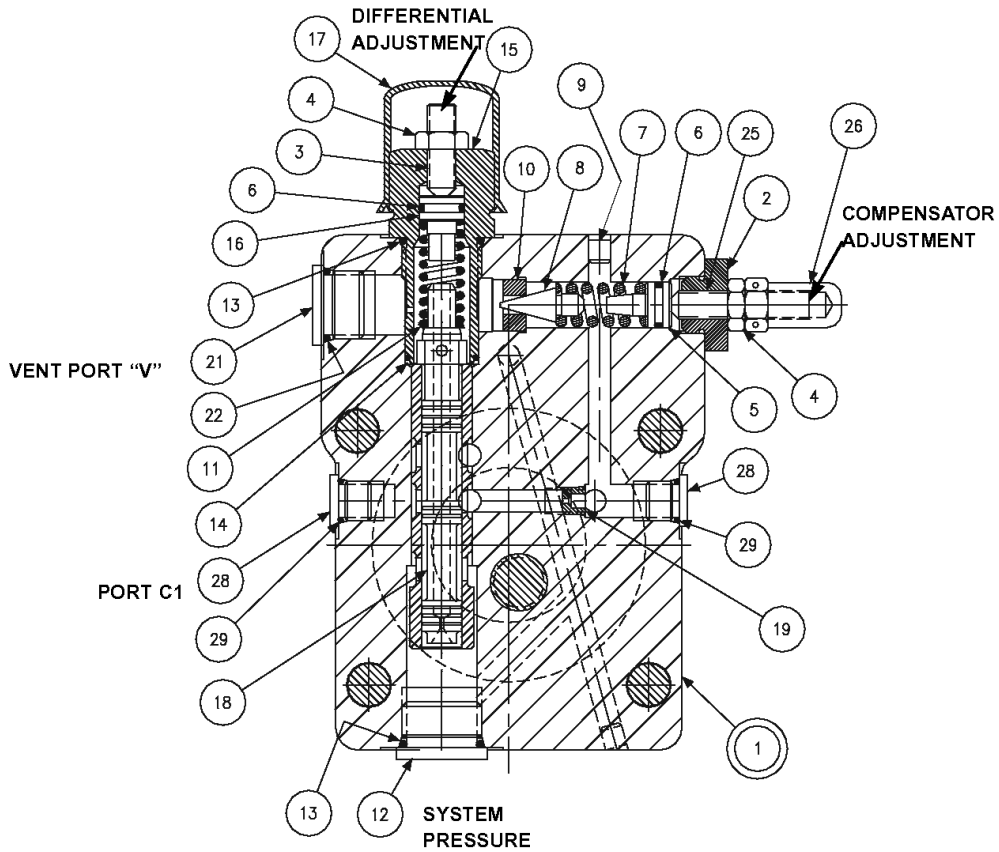

FIGURE 6
1. See Figure 6. Back off maximum volume screw or handwheel to full displacement. Remove maximum volume screw or handwheel assembly.
3. Remove plug (15) and attached parts. Remove spring (11) and spool (18).
4. Remove adjusting plug (2) and attached parts. Remove seal piston (5). Note: a 10-24 screw may be used to assist in pulling the piston. Remove spring (7) and cone (8).
5. Do not remove sleeve in body (1). Sleeve is pressed into cap and finished to size. If sleeve or cap is worn, replace the cap-sleeve assembly (1).
6. Examine seat (10) for wear. Do not remove unless damaged.
PARTS LIST FOR FIGURE 6